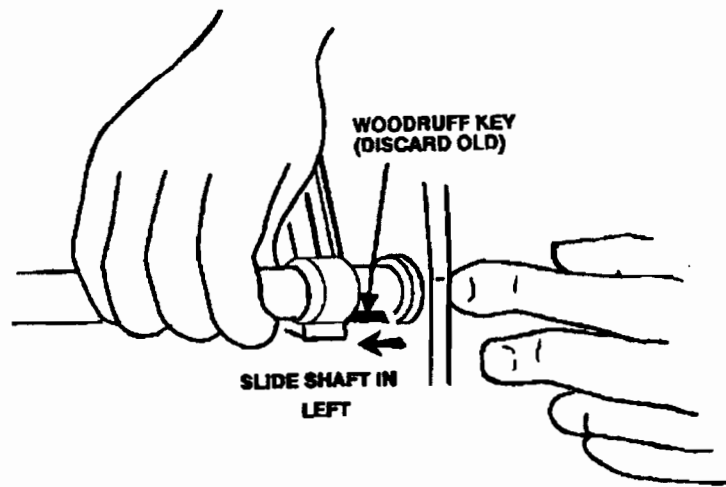

Figure 14. Removing the old Platen Gap Handle
- f. Slide the shaft toward the left just enough to remove the old Platen Gap Handle (see Figure 14). The woodruff key may fall out. Discard the old handle and the key.